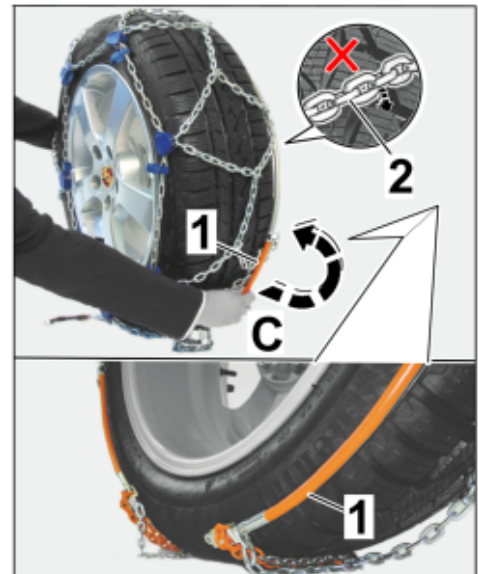

Figure 6
2.1.4 Guide the ends of the spring steel clip at the bottom of the wheel behind the wheel (⇒ *Figure 6 -C-*).
2.1.6 Arrange the chain net and make sure that no bars of the chain are caught in the tread (⇒ *Figure 6 -Magnifier-*).